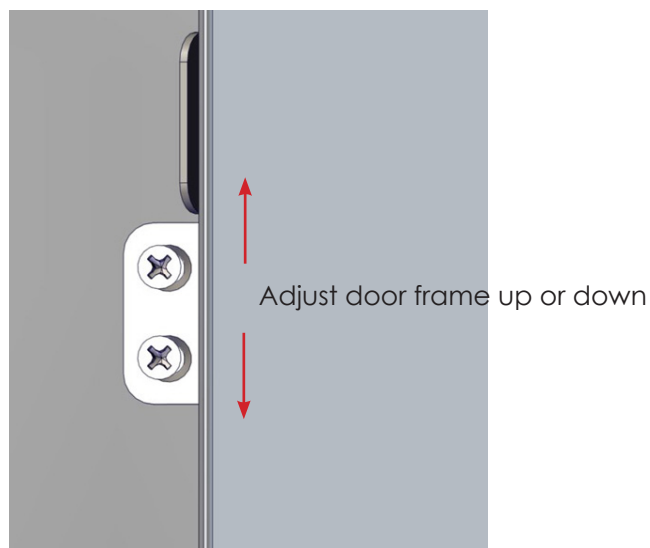

Fig. 19: Adjust door up or down
2. Move the door up or down (up to 1/4" in either direction) to align one door frame with the other (Fig. 19). Use a level to ensure the door frames align properly.